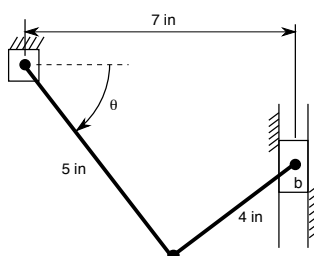

Figure 8.32:
2. Figure 8.32 shows a slider crank mechanism. For the mechanism, plot the position of the slider  $b$  in terms of the crank angle  $\theta$ . Does the solution exist for all angles  $\theta$ ?